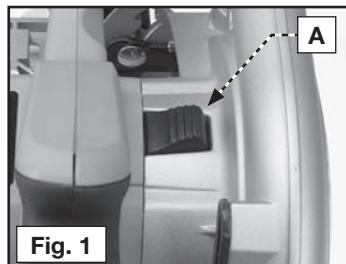
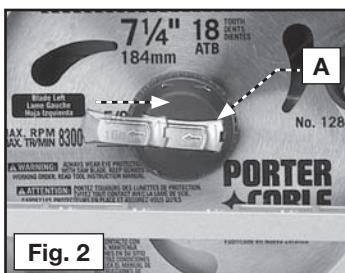

Fig. 1
Fig. 2
1. Push in the arbor lock button (A) Fig. 1 and rotate the blade by hand until the lock engages the blade arbor.
2. While pressing the arbor lock button, extend the lever on the Quik-Change blade clamp (A) Fig. 2 and turn it counter-clockwise.
4. Replace the Quik-Change blade clamp (A) Fig. 2 finger tight by turning it clockwise. Push in the arbor lock button (A) Fig. 1, extend the lever on the Quik-Change blade clamp (A) Fig. 2, and hand-tighten the assembly securely. Release the arbor lock.